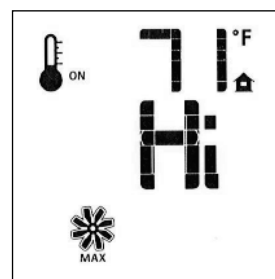

Figure 62. Fan Speed.
- Use the Up/Down Arrow Keys to turn ON, OFF, or adjust the fan speed. Fig. 62. A single “beep” will confirm reception of the command. After a 5 minute interval, the fan will power up to its highest speed and then modulate down to the established fan speed setting. The fan will continue to operate for 12 minutes after the burner is turned off. Manual speed control is not available when the SMART Thermostat is ON.